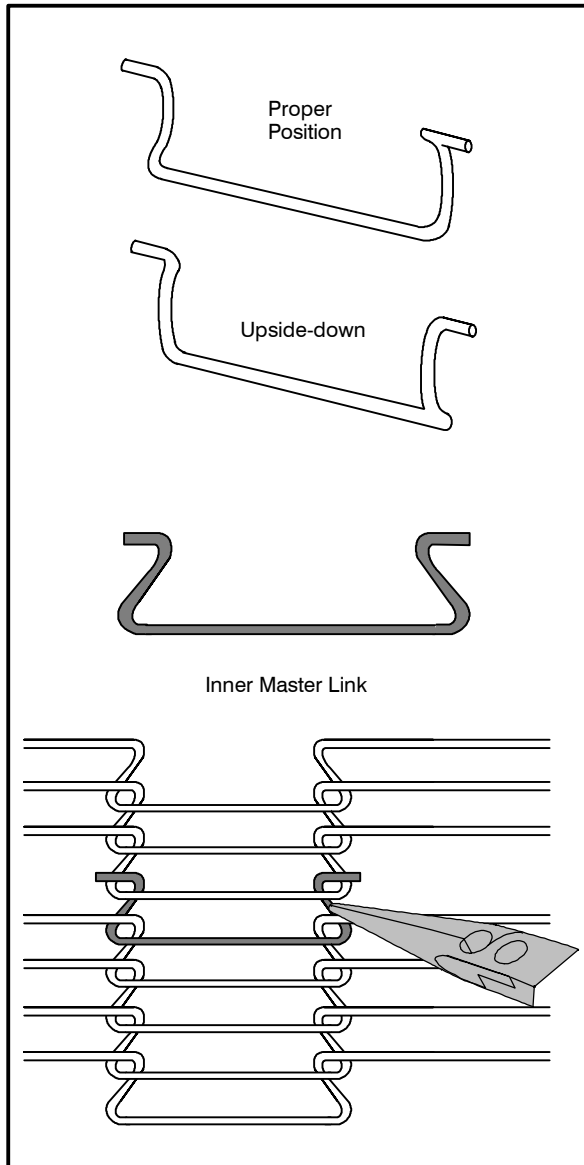

Figure 10
6. Install inner master links. See Figure 10.